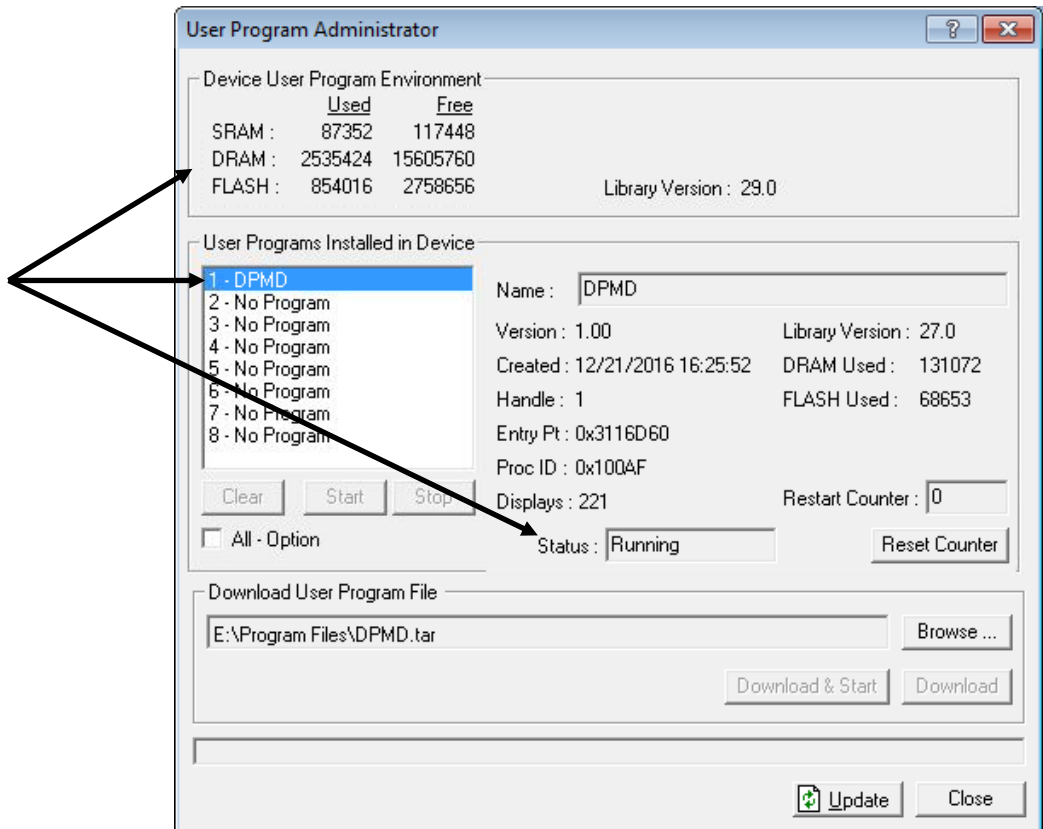

Figure 2-8. User Program Administrator
11. Click **OK**. The User Program Administrator screen displays (see *Figure 2-8*). Note that: